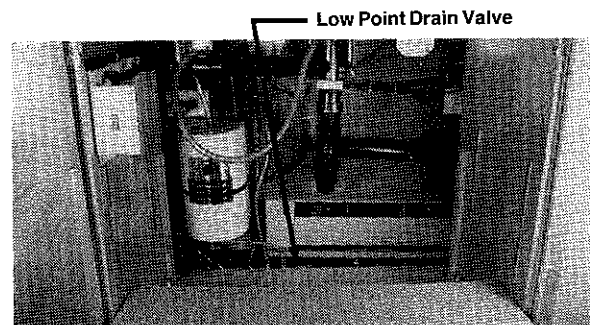

Figure 5-5. Kitchen Plumbing
3. Open the low-point drain valve located beneath the kitchen sink, figure 5-5.